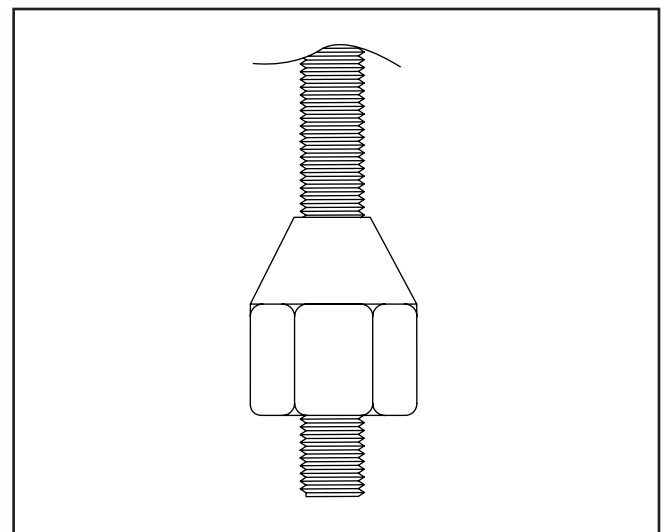

Figure 5. Nut threaded onto drawbar.
5. Thread the drawbar nut, tapered side up, onto the bottom of the drawbar until it stops below the spindle housing cartridge. **See Figure 5.**